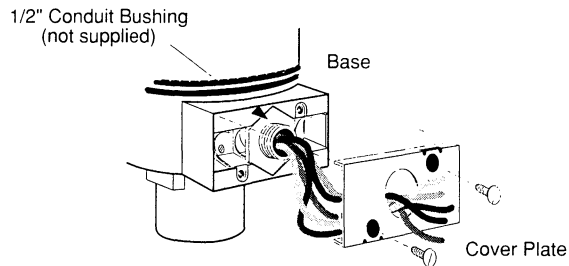
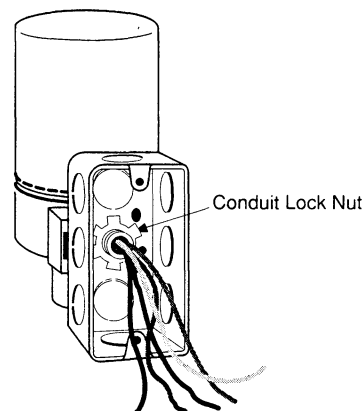

Figure-10 Conduit Bushing and Cover Plate Installation.
Figure-11 Attachment of Conduit Box to Threaded Adaptor.
2. Slip leads through standard 1/2" conduit bushing (not supplied) and knockout hole in cover plate. See Figure-10.
4. Install cover plate using the two (2) screws provided.
5. Attach conduit box to threaded adaptor. Install rigid conduit, flexible conduit, etc. to conduit box as required. See Figure-11.